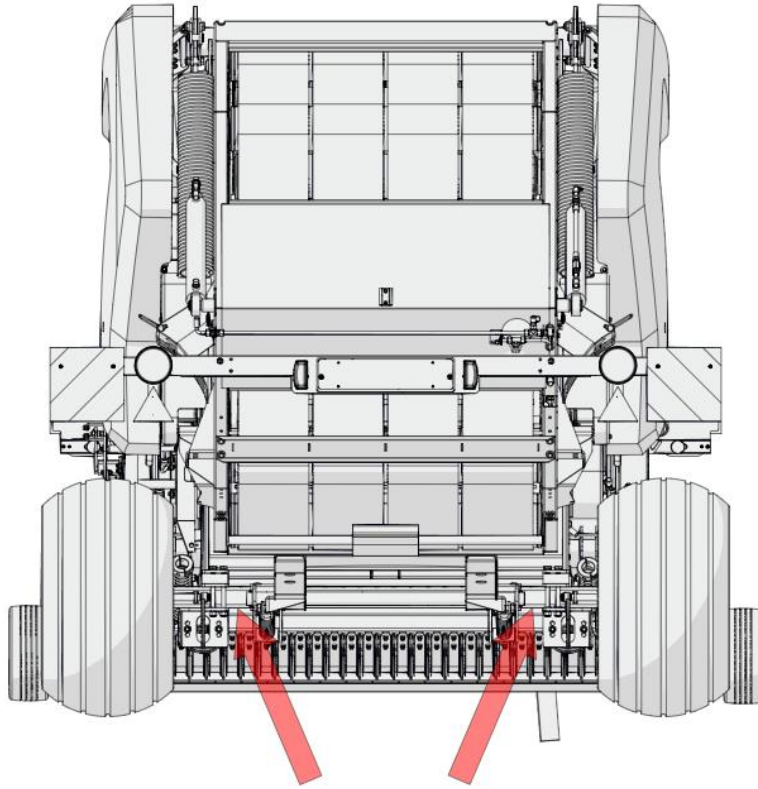

Figure 24. Jacking points
The jack must be placed on the Baler axis only. The jacking points are shown in Fig. 24. Do not place the jack in other places, as you can damage the machine.
- Place the jack at the point shown in Figure 24 The lifting capacity of the jack must suit the machine's weight